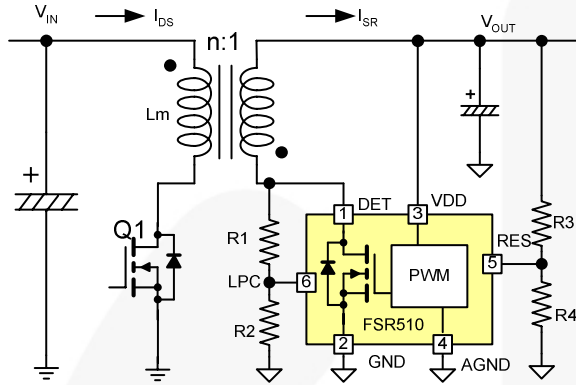
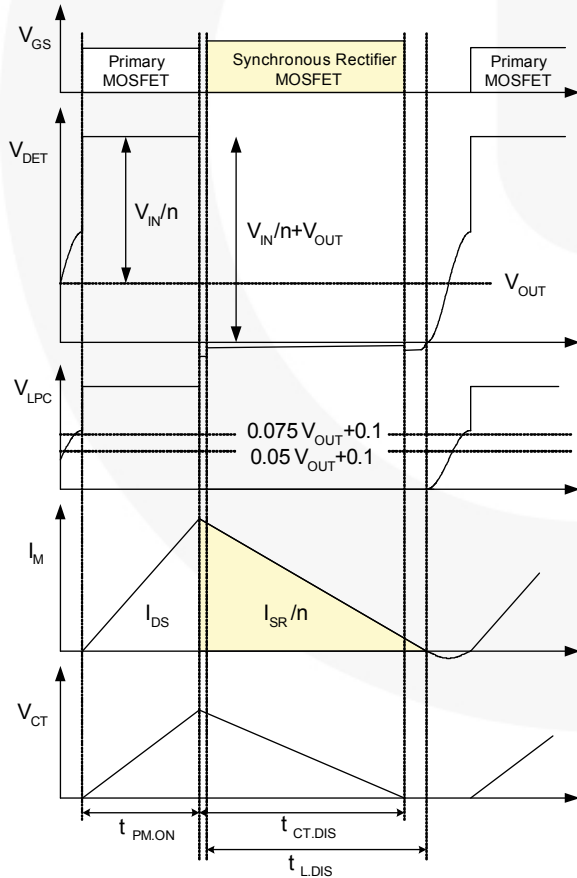
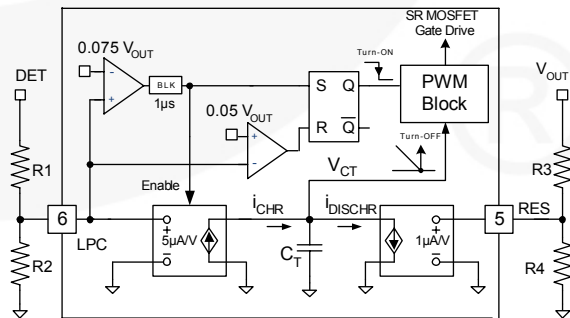

Figure 5. Typical Application Circuit
Figure 6. Typical Waveforms
Figure 7. Linear Predict Block
Figure 5 shows the simplified circuit diagram of flyback converter using FSR510. Typical waveforms are shown in Figure 6.
- When the SR MOSFET body diode current reaches zero, SR MOSFET body diode is naturally reverse biased and DET voltage begins to oscillate by the resonance between the primary-side inductor (L_m) and effective capacitance loaded across MOSFET with an amplitude of output voltage, as shown in the second waveform of Figure 6. The QR flyback converter turns on the primary-side MOSFET when DET voltage reaches its peak by resonance.
The SR MOSFET is turned on when the SR MOSFET body diode starts conducting and DET voltage drops to zero. FSR510 uses LPC pin with a voltage divider to sense the DET voltage and the threshold voltage for LPC to trigger SR MOSFET is $0.05V_{OUT}+0.1$, as shown in the third waveform of Figure 6.
The SR MOSFET is turned off just before the SR current reaches zero by linear predict timing control. To guarantee the proper operation SR, it is important to turn off SR MOSFET just before SR current reaches zero so that the body diode of SR MOSFET is naturally turned off. Figure 7 shows the internal block for linear predict timing control.
The linear predict timing control circuit generates a replica (V_{CT}) of magnetizing current of flyback transformer using internal timing capacitor (C_T), as shown in Figure 7. Using the internal capacitor voltage, the inductor discharge time ($t_{L.DIS}$) can be detected indirectly, as shown in the last waveform of Figure 6. When C_T is discharged to zero, the SR controller turns off the SR MOSFET.
Since the voltage-to-current conversion circuit for the LPC pin is enabled only when LPC voltage goes above $0.075V_{OUT}+0.1$, as shown in the third waveform of Figure 7, the voltage divider for LPC should be determined so that it can satisfy: